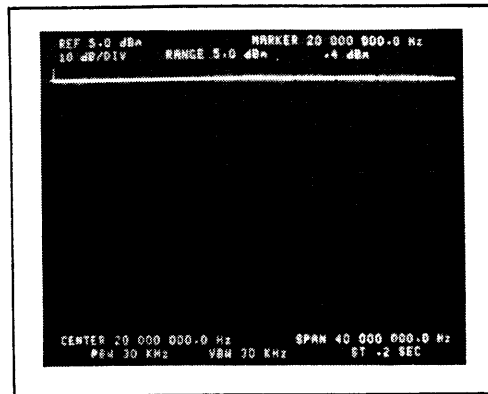

Figure 11-P-15. Correctly Autoranged Displayed
**X. Set the RBW to 30kHz. Rotate the Tracking Generator AMPLITUDE control fully clockwise (0dBm). Connect the Tracking Generator output to the front panel Terminated (50Ω) input. Did the 3585A automatically uprange to 0dBm (see Figure 11-P-15)?**